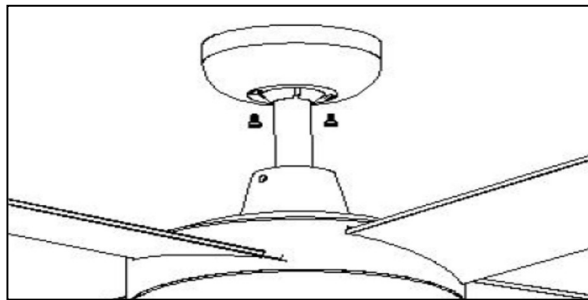

Fig. 11
- Cover the mounting bracket with the canopy. Ensure all electrical wiring is tucked inside the canopy and that the wires are not damaged during this step. Secure the canopy to the hanger bracket using the screws provided. (Fig. 11)